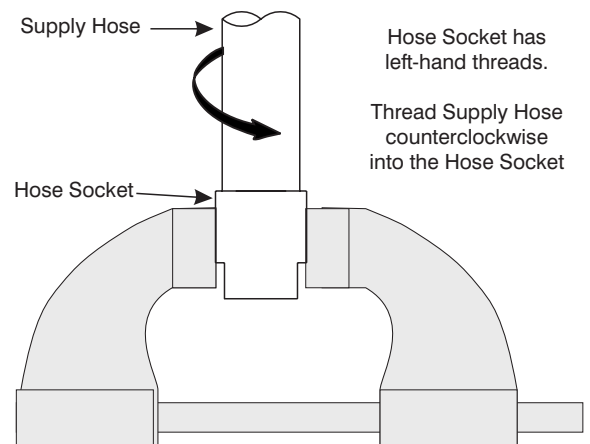

Figure 11-14. Hose Socket and Hose in Vise
- a. Hold the Gasket (16) with the grooved face toward the Quick Disconnect (Q.D.) Socket (17).
2. With its larger internal bore (hose end) facing up, clamp the Hose Socket (14) in a vise, as shown in Figure 11-14.